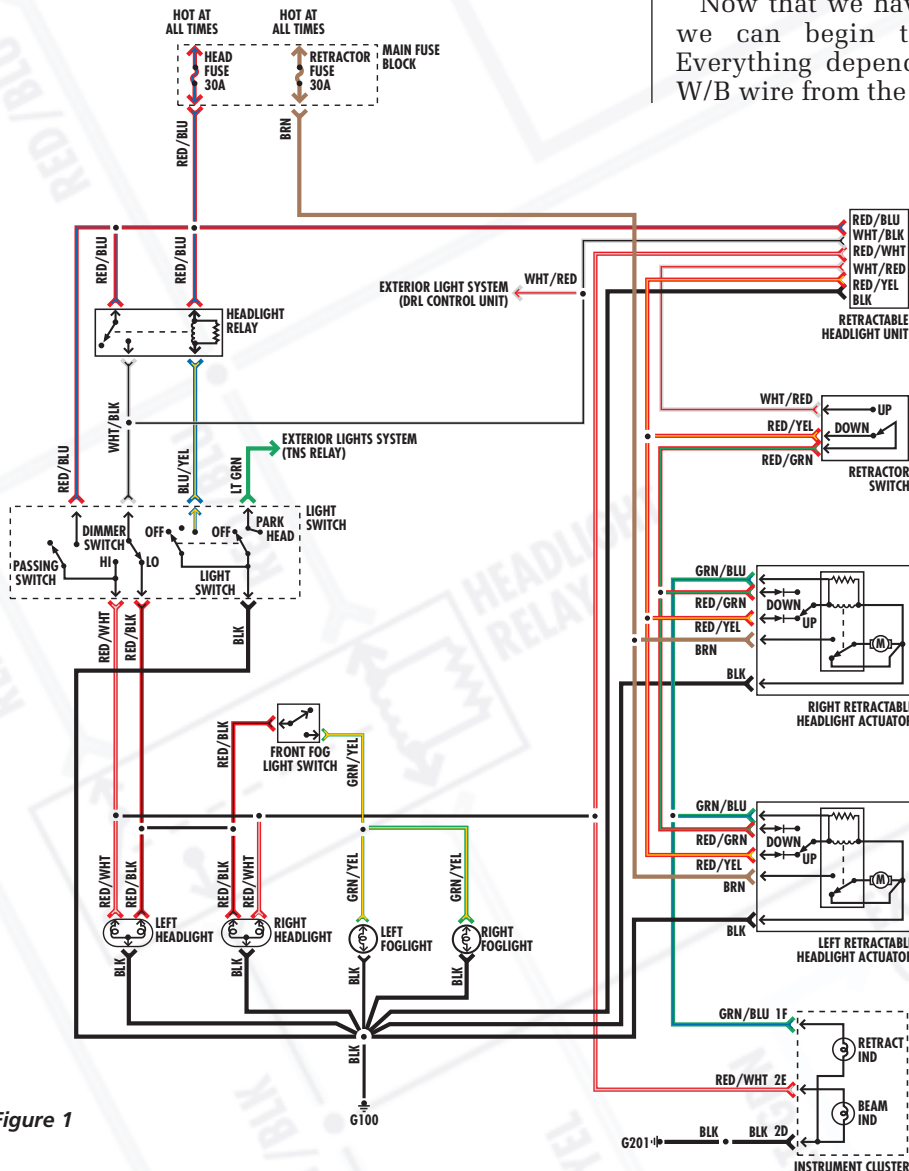

Figure 1
**Figure 1** (page 18) shows the complete schematic of the Retractable Headlight Circuit. When the Headlight Relay contacts close, B+ is present in the W/B wire at the splice connection below the relay contacts which goes down to the Light Switch and over to the right to the Retractable Headlight Unit.